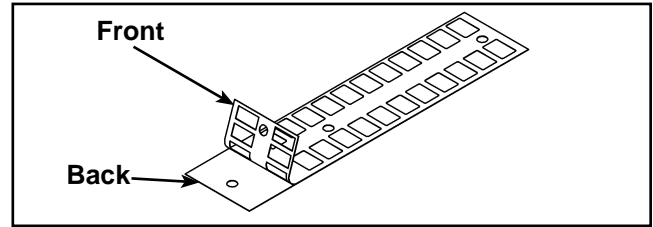

Figure 14
- A. Slowly and carefully peel off back side of decal. See Figure 14. **NOTE:** When peeling off back cover, make sure that the decals remain attached to the front sticker.